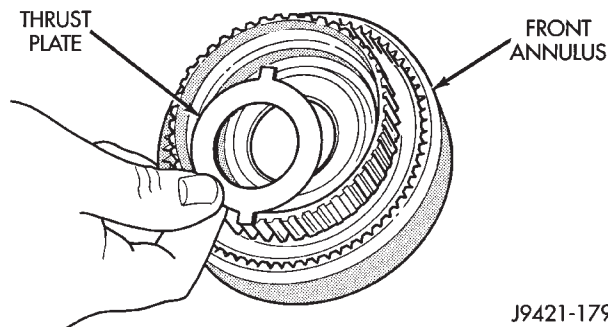

Fig. 177 Positioning Thrust Plate On Front Annulus Support
(18) Position thrust plate on front annulus gear support (Fig. 177). **Note that plate has two tabs on it. These tabs fit in notches of annulus hub.**